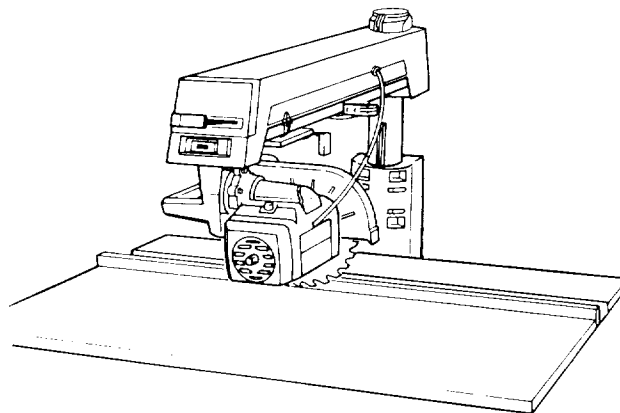

Fig. 79 - In-Rip Position
3. Make sure that the lower edge of the *guard* is parallel to the table. (Figure 79)
5. Unlock the *swivel lock* and turn the *motor* to the in-rip position, with the *blade* between the *motor* and the *fence*. (Figure 79)